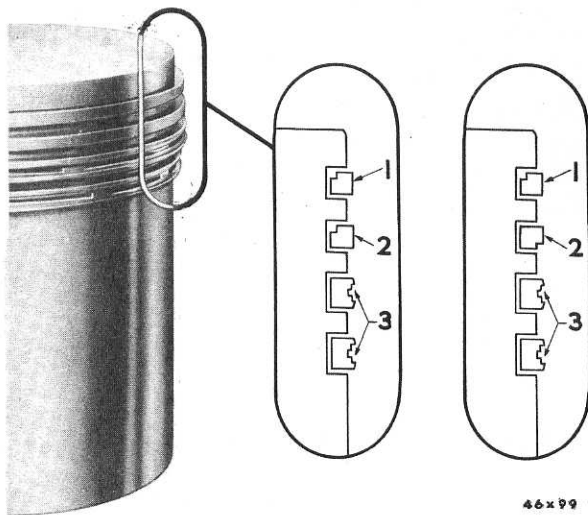
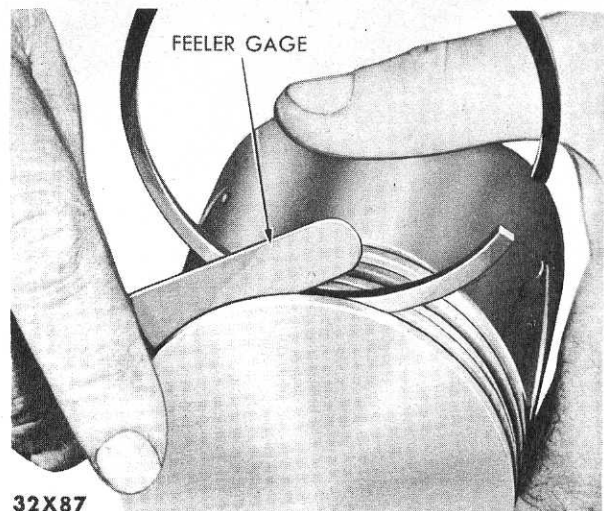
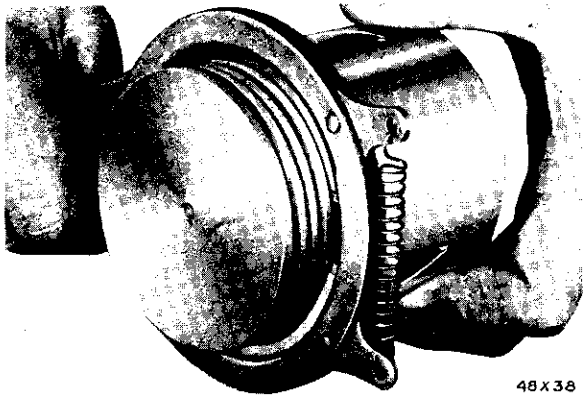

Fig. 34—Piston Rings
Fig. 36—Checking Side Clearance in Piston Groove
Fig. 37—Installing Piston Rings
30. FITTING PISTON RINGS (FIGS. 34 AND 35)
Measure ring side clearance, as shown in Figure 36, page 33, with a feeler gauge. After fitting rings to the cylinder and piston, install rings on piston, using piston ring installing tool, as shown in Figure 37. The rings must be installed in the grooves, as indicated in Figure 34.